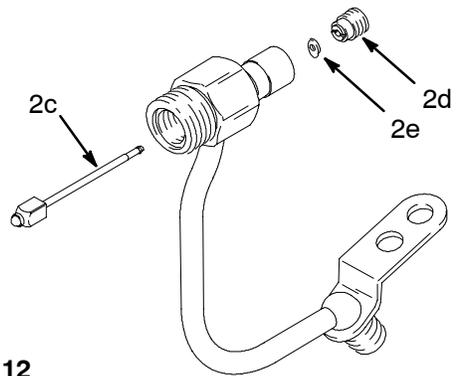

Fig. 12 03974
- Remove the needle (2c). Unscrew the seal retainer (2d). Remove the seal (2e). See Fig. 12.